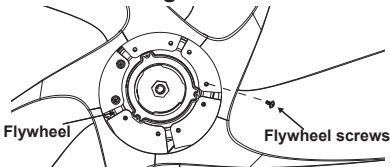

Figure 16
Step 5. Reinstall the eight flywheel screws to the flywheel. (Fig. 16)